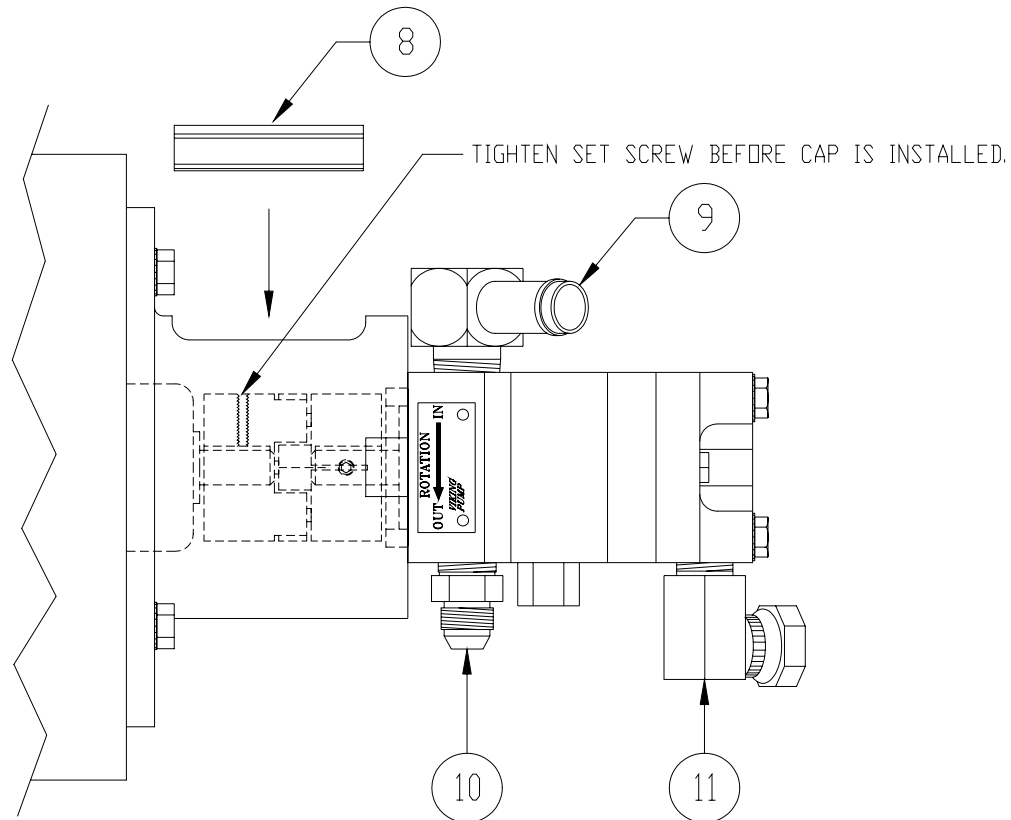

Figure 4
10. Loosen the set screw on the engine coupler as shown in Figure 4. The coupler must slide freely on engine shaft to set the proper clearance between the engine and pump couplers. **Improper clearance will cause pump failure.**
14. If using a gas powered HydraPak, install one access cover on the top or "12-clock" access hole of the bracket. If using an electric HydraPak, install an access cover on the access holes at the 3 and 9 o'clock positions. See Figure 4.